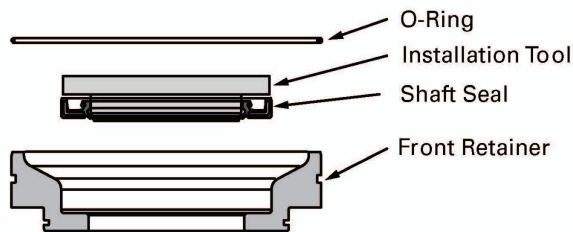

Figure 5
12. Lightly lubricate O-Ring with Mobil EP -2 grease or petroleum jelly (e.g. Vaseline). Install in groove on front retainer. (Figure 5)
13. Lightly lubricate seal lip of shaft seal with Mobil EP-2 grease or petroleum jelly (e.g. Vaseline). Place seal on assembly tool, and press into bore of front retainer. Press until seal makes positive stop with front retainer shoulder. Protect inside diameter shaft seal area from damage. (Figure 5)